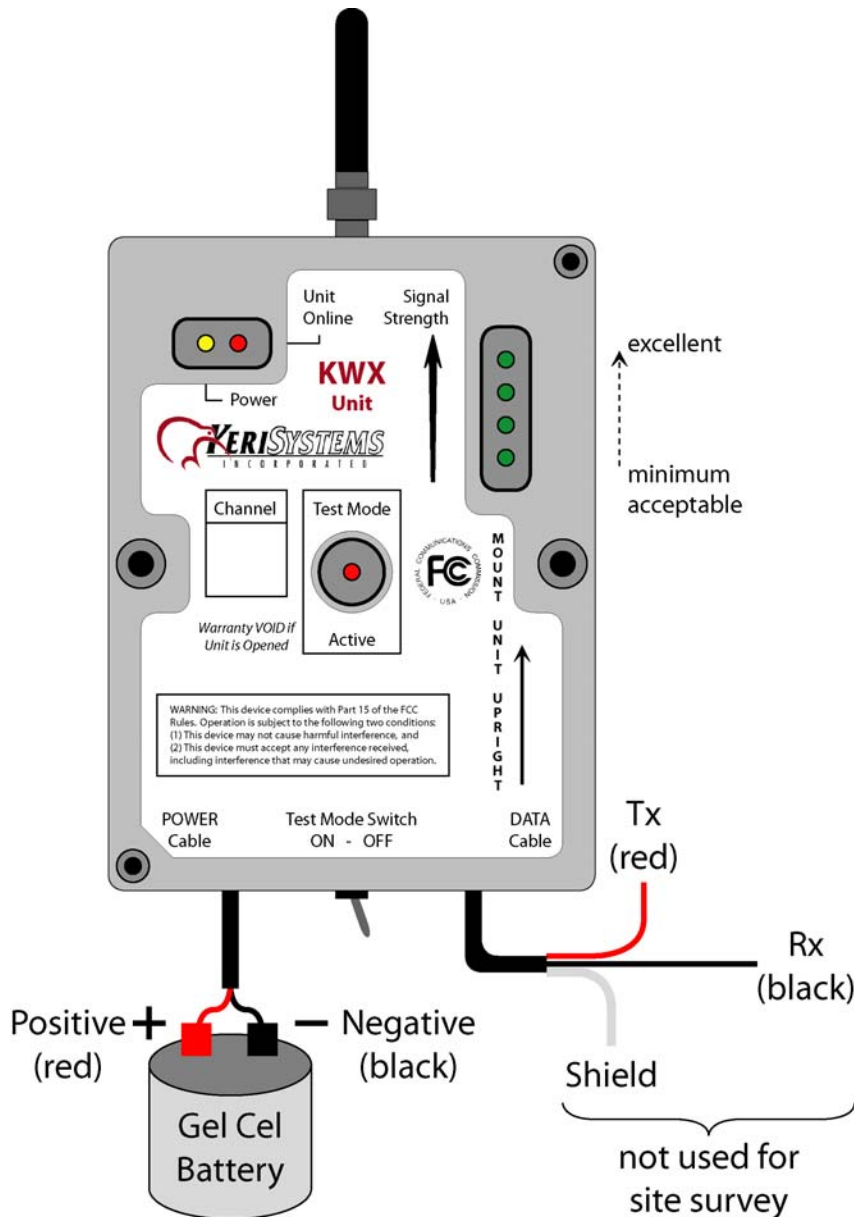

Figure 5: Pre-Installation Test Unit Power Connections
Prior to installation, a site survey should be conducted to ensure proposed KWX installation locations will provide the required site coverage. This is done using two KWX units. Refer to Figure 5 for unit power wiring and LED functions.
- The unit **must be mounted upright** for proper signal coverage (refer to the unit label – see Figure 5 on page 7).